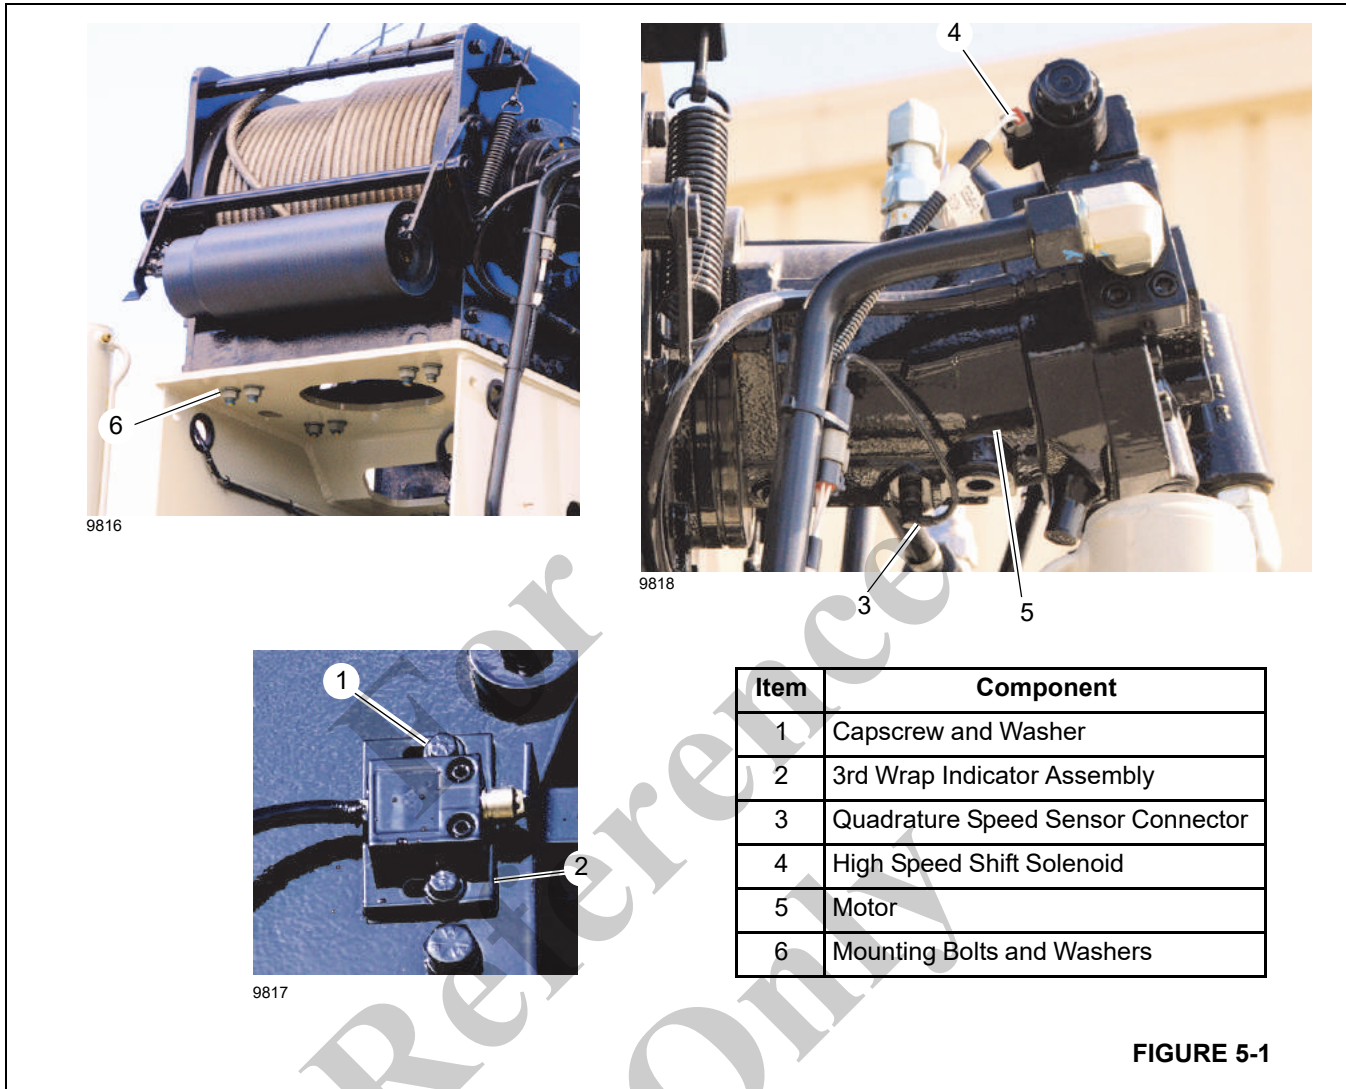

FIGURE 5-1
3. Remove two capscrews (1, Figure 5-1) and remove the 3rd Wrap Indicator assembly (2) from the hoist.
4. Disconnect the high speed shift solenoid (4) and quadrature speed sensor (3) connectors from the hoist.
7. Remove the mounting bolts and washers (6) from the hoist.
2. Disconnect the 2-speed (3, Figure 5-1) and 4-speed (4) connectors from the hoist motor.
3. Remove the DRI wiring harness (1). Remove tie wraps as needed.
2. Connect the 2-speed (3, Figure 5-1) and 4-speed (4) wires to their connectors on the hoist motor.